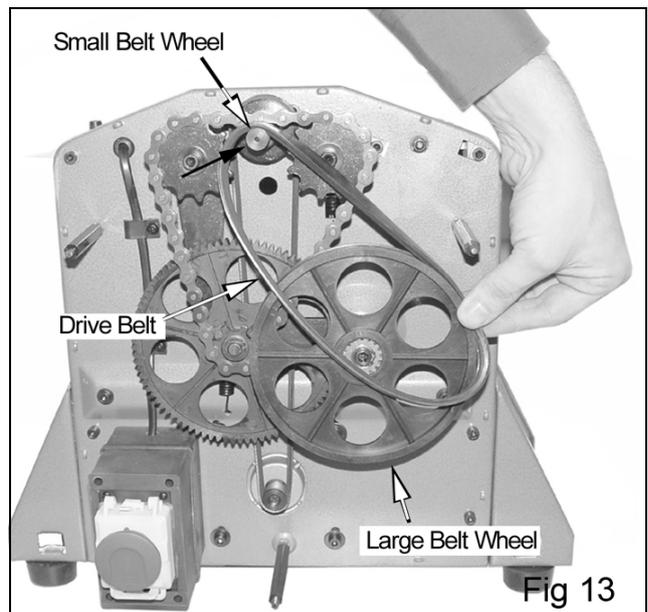

Fig 13
4. Position part of the drive belt over the large belt wheel as shown in fig 13.